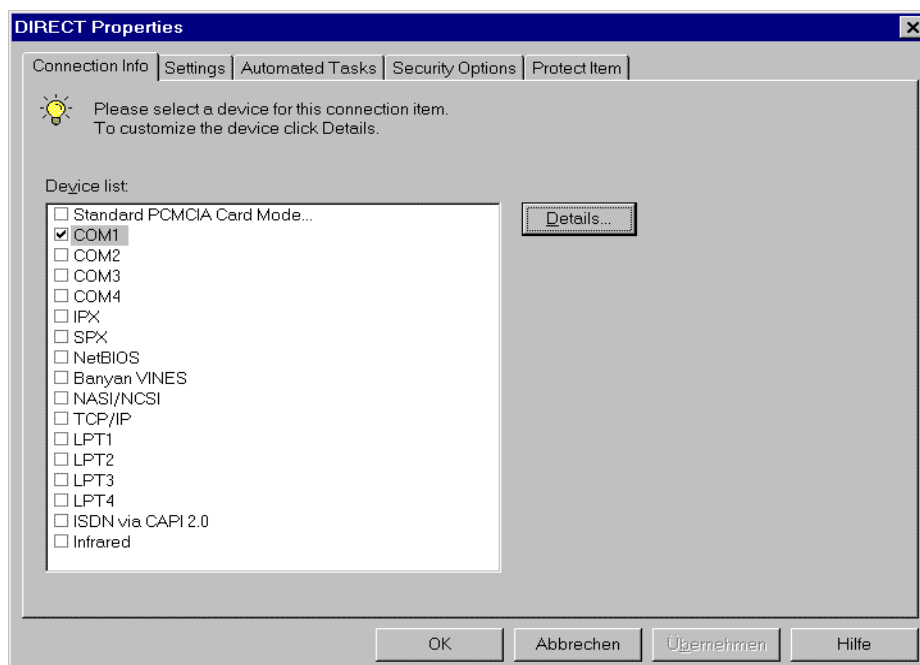

Fig. 25
- Click on the row "Properties...". Window "DIRECT Properties" (Fig. 25) is displayed.